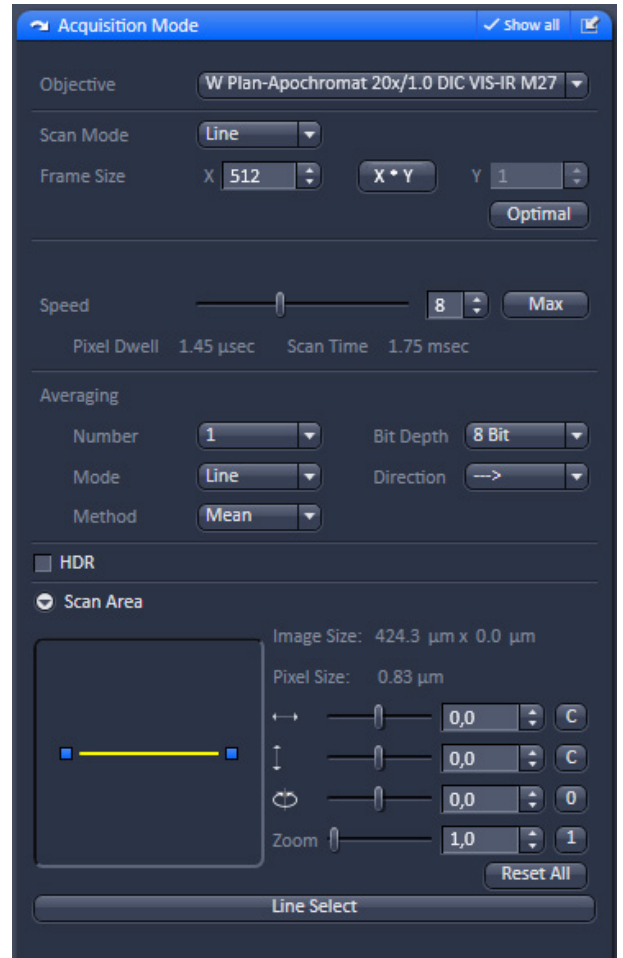

Fig. 306 Image settings for line scan mode
- Set up scan mode in the LSM **Acquisition Mode** tool (Fig. 306). Choose **Line** scan, highest Scan speed, 512 pixels and **Zoom 1** for convenience.